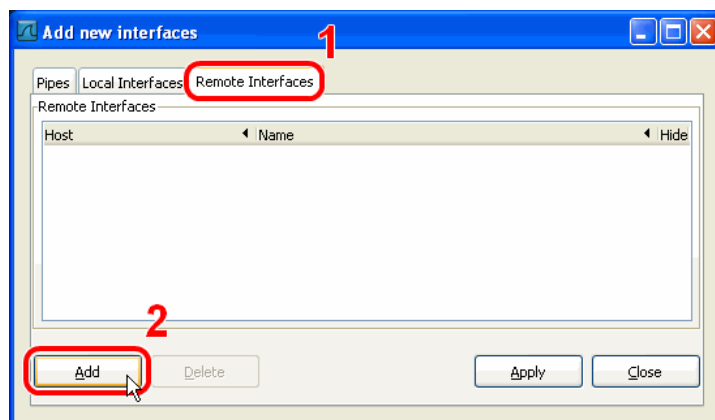

Figure 161: Wireshark Add New Interfaces Dialog.
3. Select the **Remote Interfaces** tab and click **Add** as shown in Figure 161.